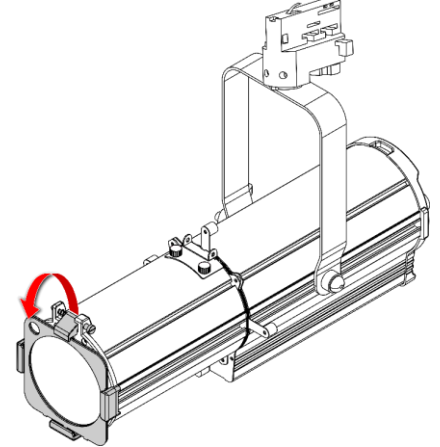

Fig. 15
- 04) Pull the **color frame clip (09)** downwards to release the **spring-loaded screw (10)** (see Fig. 15). The color frame will be locked in position.